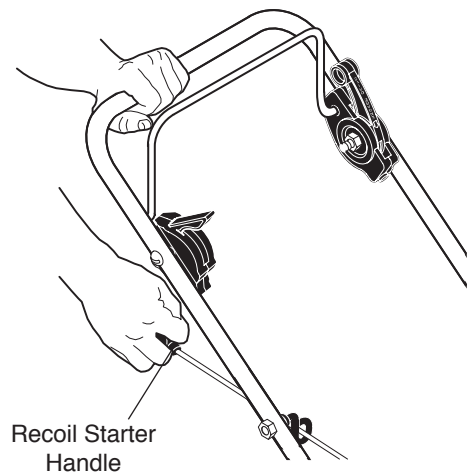

Figure 8
5. Firmly hold the recoil starter handle with your right hand. (See Figure 8)